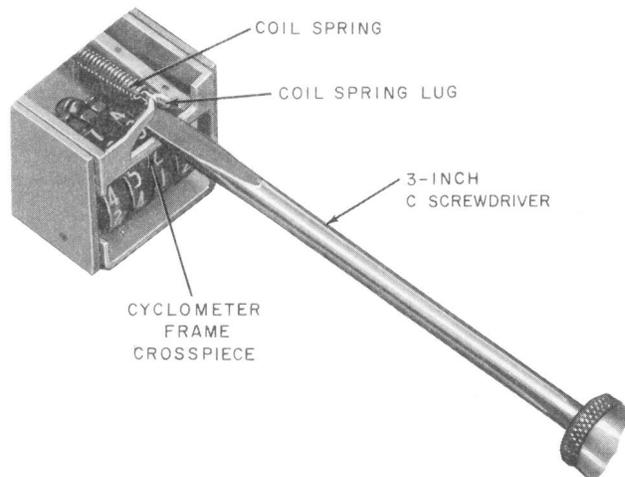

Fig. 15—Method of Adjusting Coil Spring Lug Upward on 14-Type Register
(3) If the lug has been adjusted too far downward, insert the 3-inch C screwdriver between the lug and the cyclometer frame crosspiece and pry the lug upward, as shown in Fig. 15.